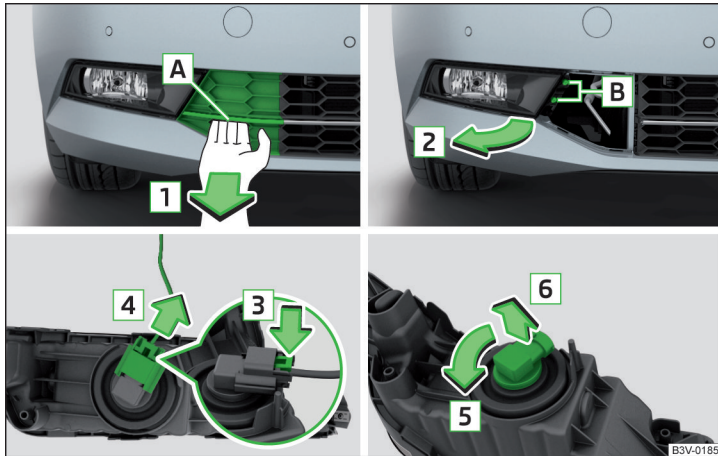

Fig. 274 Remove the number plate light / replace the bulb
- Replace the fog light by inserting it in the opposite direction of the arrow **2** » Fig. 274 and tighten.